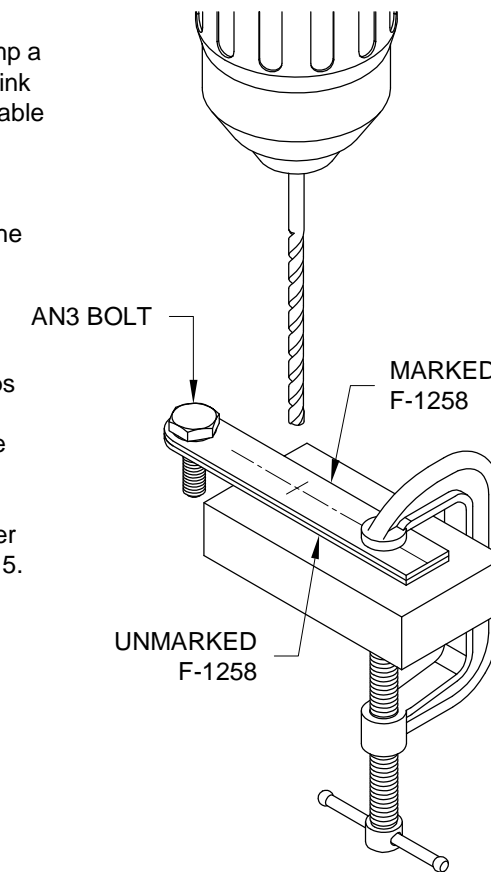

FIGURE 4: DRILLING THE RUDDER CABLE LINKS
Step 7: With a bolt through the ends as shown in Figure 4, clamp a marked F-1258 Rudder Cable Link on top of an unmarked rudder cable link.